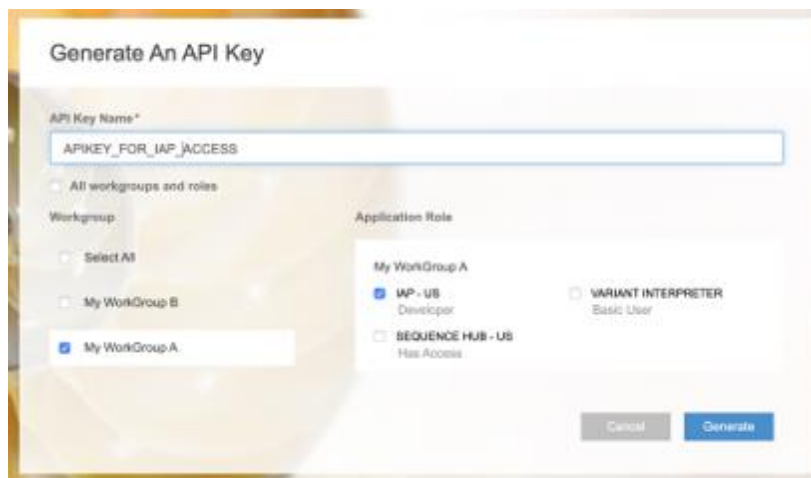

Figure 76: Generate an API Key dialog
- Click Generate to open the Generate an API Key dialog (see **Figure 76**).